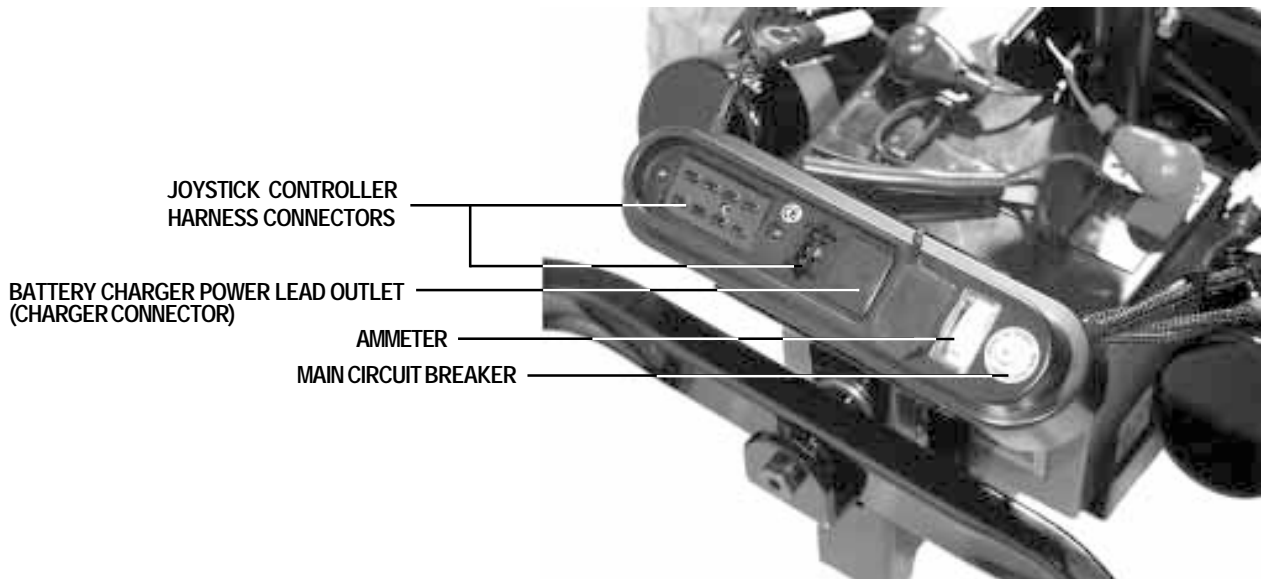

Figure 3. Electronics Connector Housing (Non Power Seat)
The electronics connector housing is located on the rear of the Jazzy. See figure 3. This housing holds the ammeter, the battery charger power lead outlet, the main circuit breaker, and controller harness connectors.
1. Disconnect the joystick controller harness connectors. Refer back to figure 3.